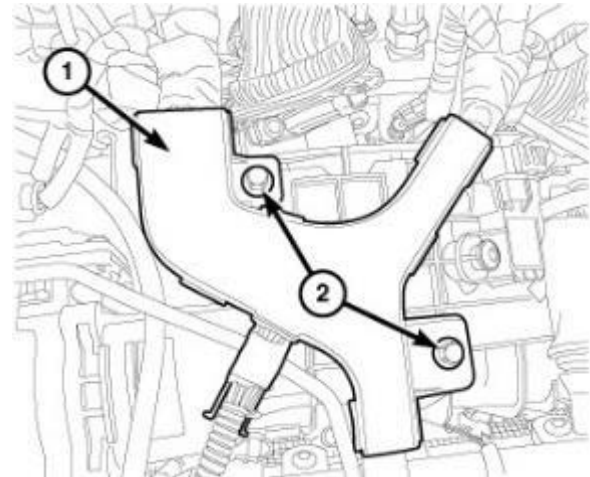

Figure 27 – Engine Wiring Harness
10. Remove the bolts (2) and pull up on the engine wire harness assembly (1) to release retainers from the intake manifold (Figure 27).